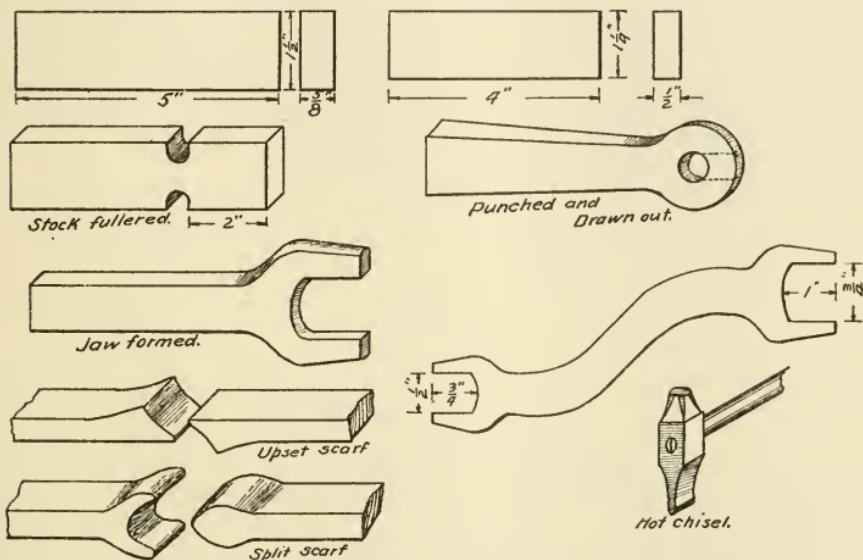

FIG. 204.—STEPS IN MAKING A WRENCH.
2. Punching. — Punch a $\frac{1}{2}''$ hole in the center, and with a hot chisel cut a piece out of the end along the dotted lines (Fig. 204). A hot chisel is made for cutting hot iron, while a cold chisel is made for cutting cold iron. The hot chisel is tempered the same as the cold